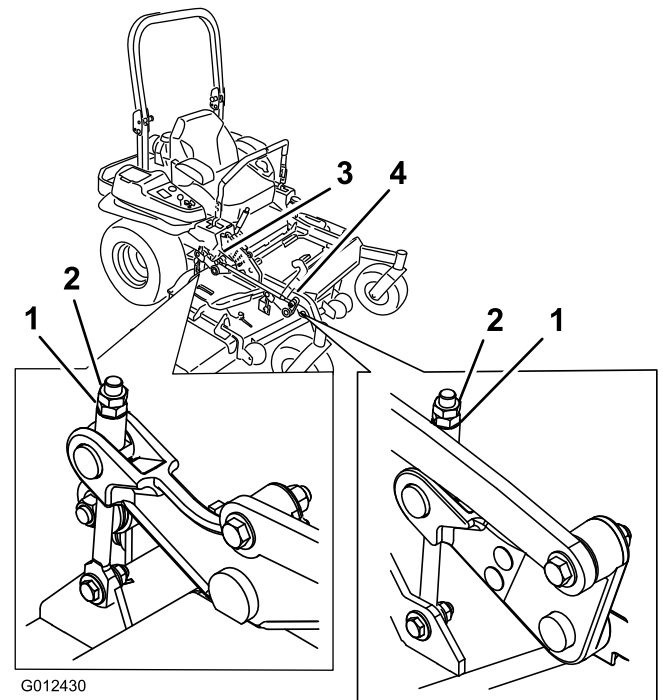

Figure 90
10. For mower decks shown in Figure 90, fine-tune the adjustment nut on the front deck lift assembly by turning it.